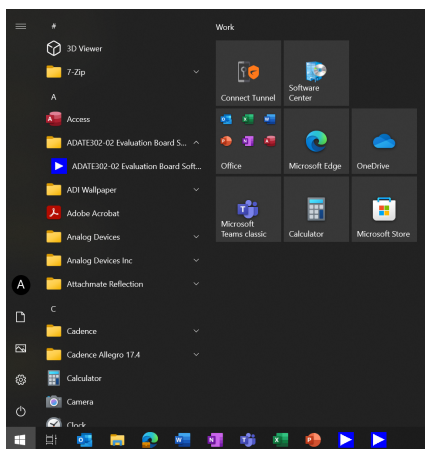

Figure 2. ADATE302-02 Evaluation Board Software in the Windows Start Menu
- ▶ Select the **ADATE302-02 Evaluation Board Software** in the Windows **Start** menu (see Figure 2).